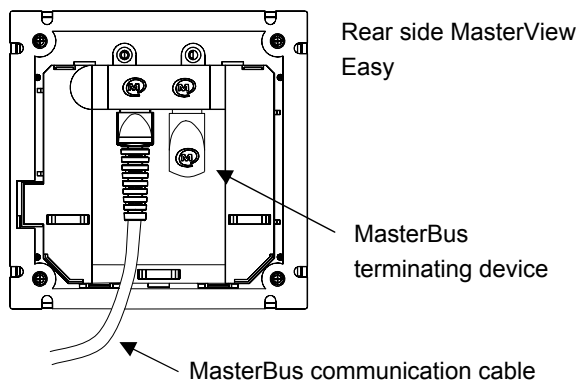

Figure 16
- 2 See figure 16. Connect the other end of the communication cable to one of both communication ports of the MasterView Easy. Insert a MasterBus terminating device into the other communication port.